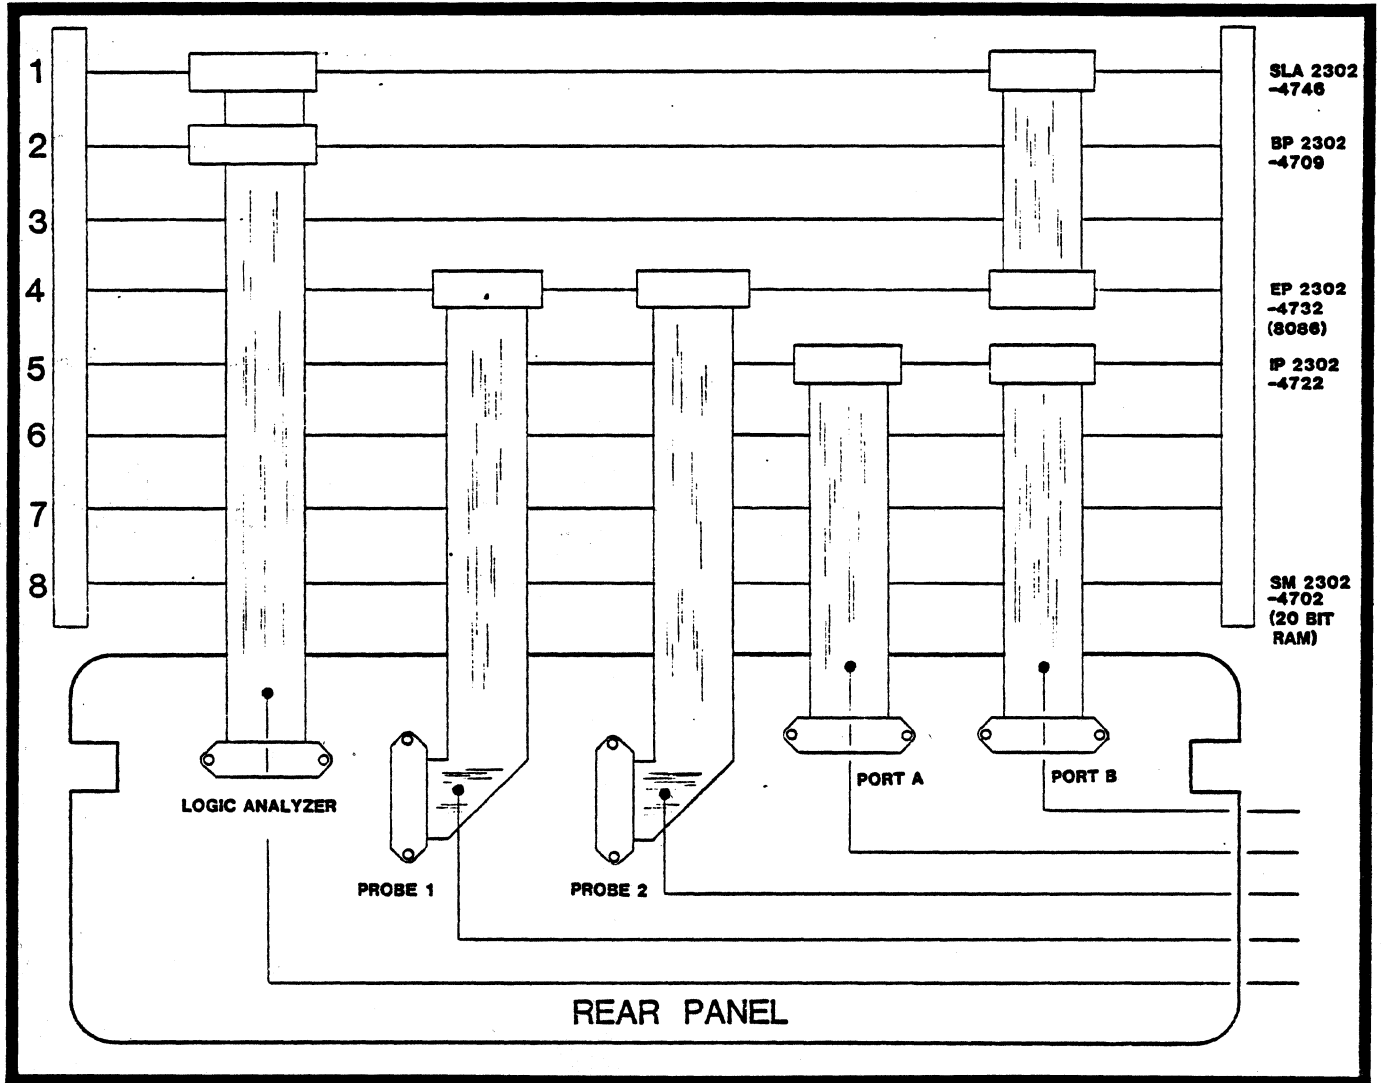

Figure 3-1. Slave Emulator (Rear View) With SLA Installed
- c. Refer to Figure 3-1. Insert the Logic Analyzer card in Position 1 in the card cage.